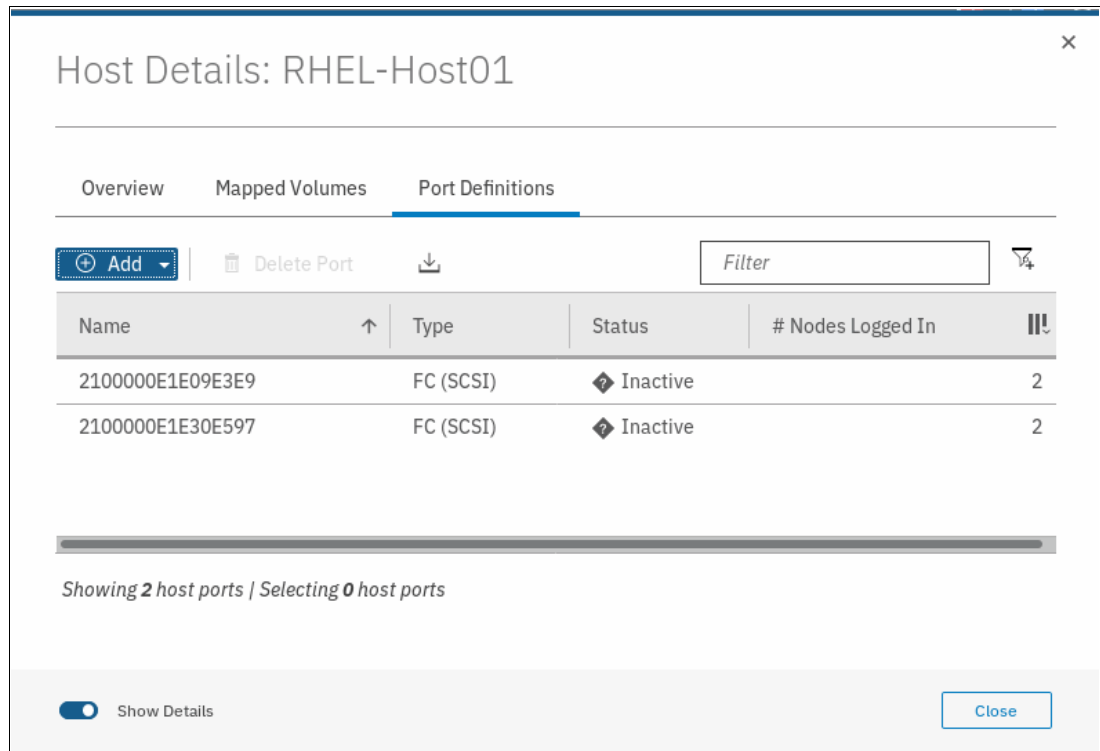

Figure 8-26 Add host port
1. Click **Add**, as shown in Figure 8-26.